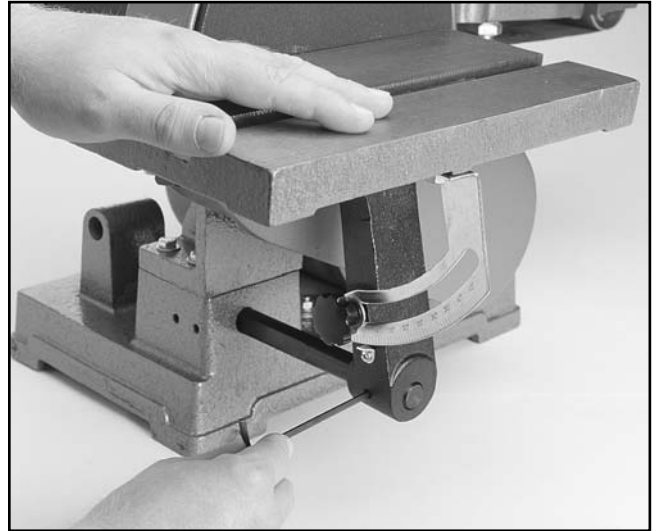

Figure 11.
8. Now slide the working table assembly onto the support shaft and tighten the setscrews. Keep in mind that there should be a $\frac{1}{16}$ " gap between the sanding disc and the table. **Figure 11.**